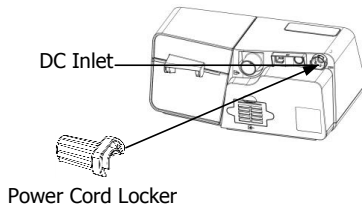

Fig. 11-5
(1) Insert the power cord locker into the device, as shown in Fig. 11-5, and then rotated to the left for assembly to the device.